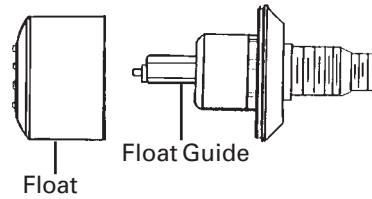

Figure 6
3. Slide float off float guide (See Figure 6).